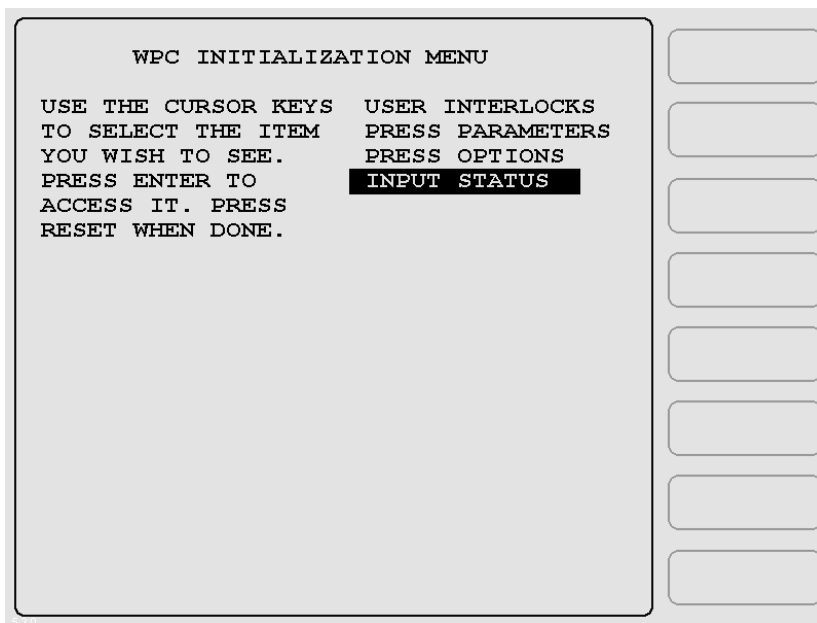
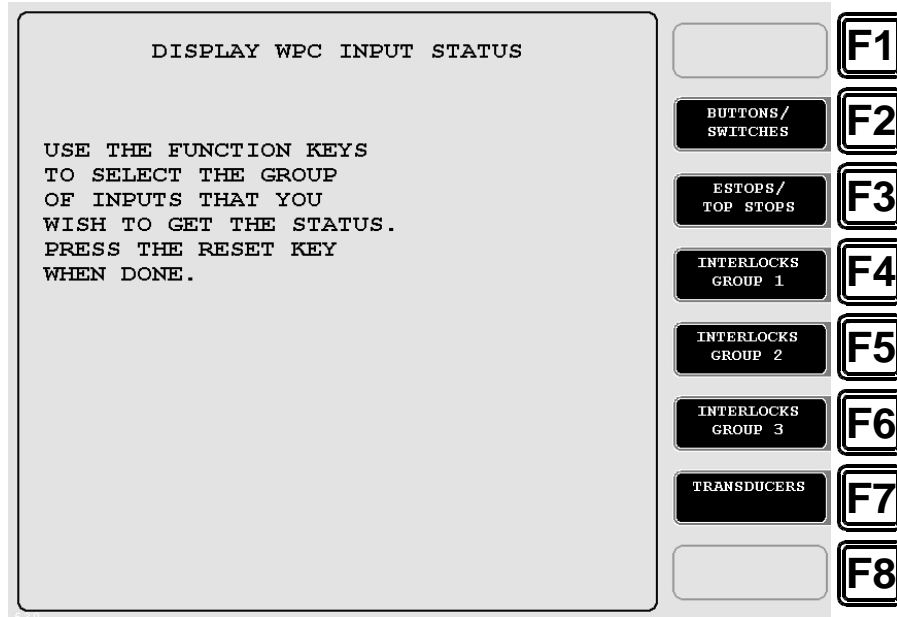

Figure 8. WPC Initialization Menu with INPUT STATUS Highlighted
Figure 9. Display WPC Input Status Screen
1. On the WPC Initialization Menu (see Figure 8, above), move the selection bar to INPUT STATUS, using the cursor keys, and press ENTER. The Display WPC Input Status screen, shown in Figure 9 (next page), displays.